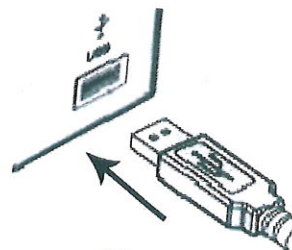
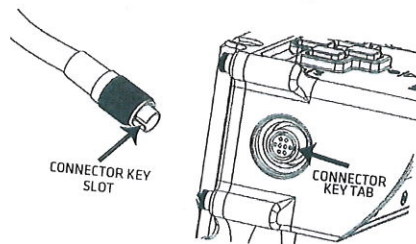

FIGURE 3
FIGURE 4
6. Connect the PC Cable: Ensure the cable is properly connected to the computer and the BORS. See Figure 3 and Figure 4.